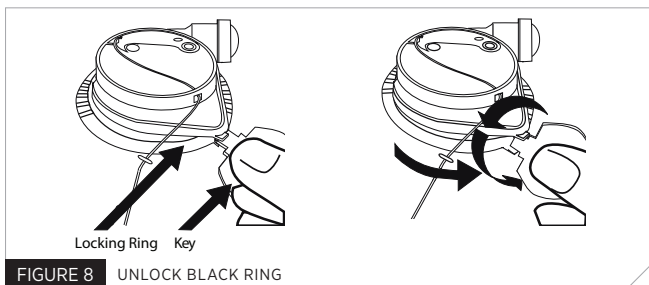

FIGURE 8 UNLOCK BLACK RING
- 2) Insert the metal key between the black locking ring and the labeled yellow cap. Turn the key counterclockwise (Fig. 8).